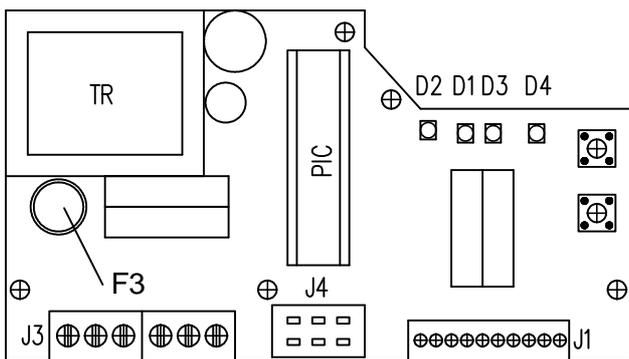

Fig. 8
3.7 Adjustment of position controller (Fig. 8)
Laying of adjusters and signalling elements on the board of the REGADA controller is shown on Fig. 8: